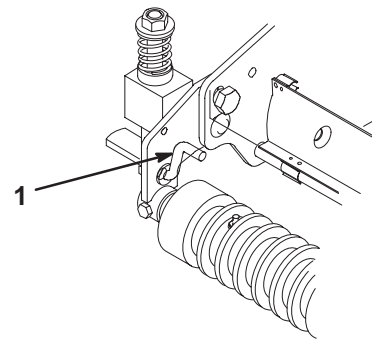

Figure 18
2. Rotate the adjusting rods (Fig. 18) so that the top of each rod is 1/8 in. above the tops of the grooming reel blade. Tighten the adjusting rod nuts.